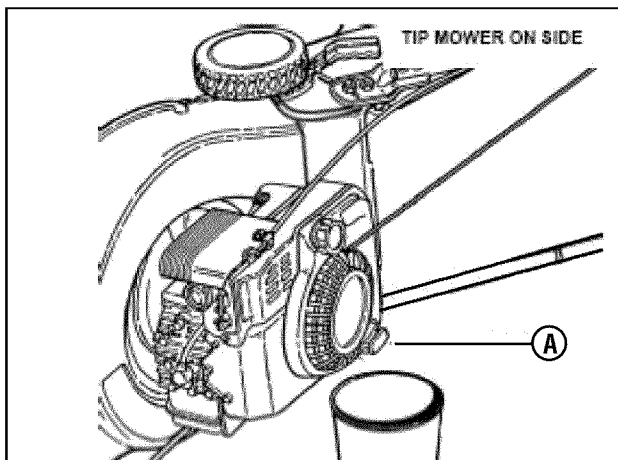

Figure 13: Draining the engine oil
2. For the simplest/cleanest oil change, simply turn the mower on its side to drain the oil, as shown. Drain the oil through the dipstick tube (**A, Figure 13**) into a container. Allow sufficient time for all the oil to drain.